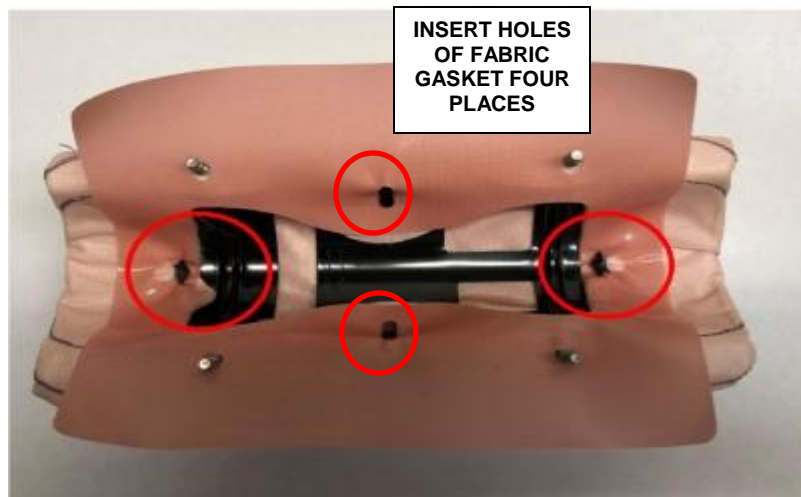

Figure 178 - Fabric Gasket
- h. With the help of a trim tool insert the holes of fabric gasket, four places (Figure 178).